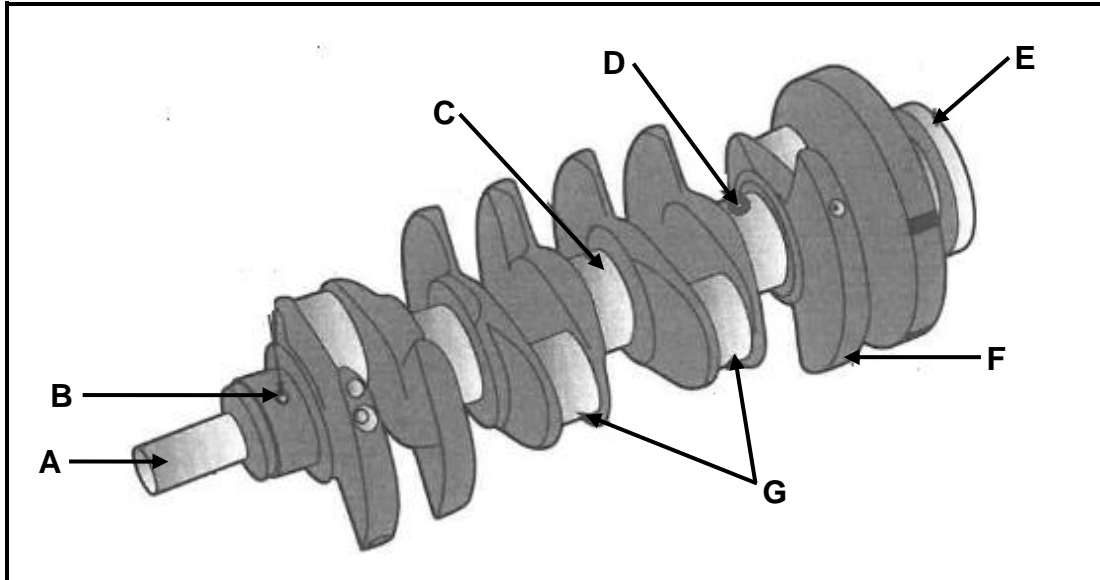

FIGURE 6.1
6.1 FIGURE 6.1 below shows the crankshaft of a four-cylinder in-line engine. Answer the questions that follow.
- 6.1.1 What is the main function of the crankshaft shown in FIGURE 6.1? (2)
- 6.1.2 Label **A–G**, the parts of the crankshaft, as shown in FIGURE 6.1. (7)